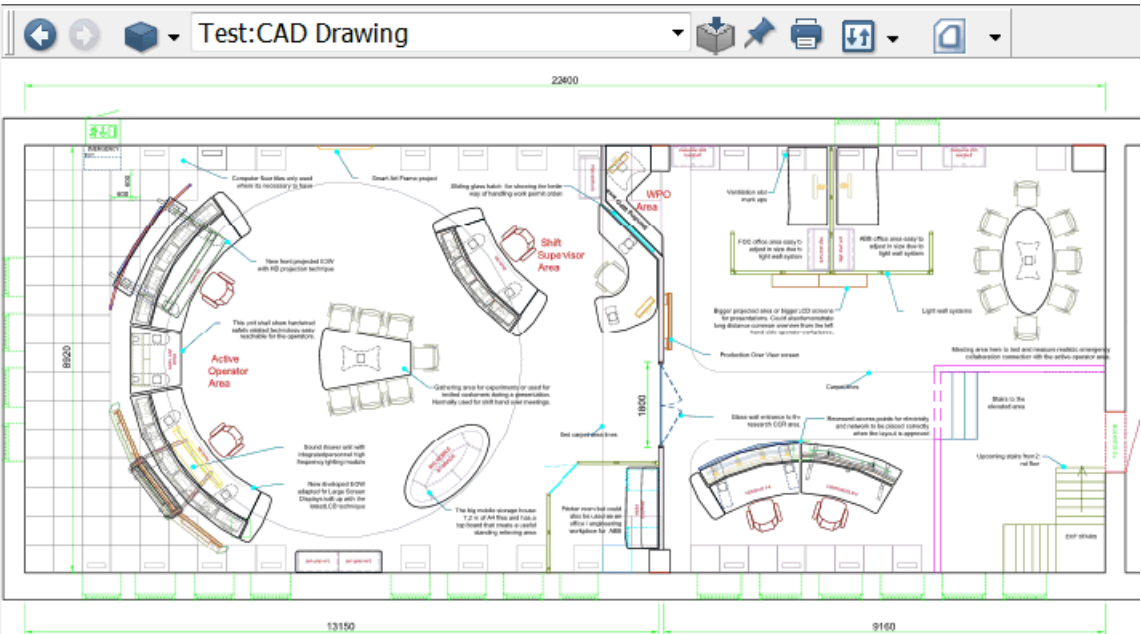

Figure 250. CAD Drawings - Main View
- Right-click the **CAD Drawing** aspect and select **Main View** from the context menu, see Figure 250.